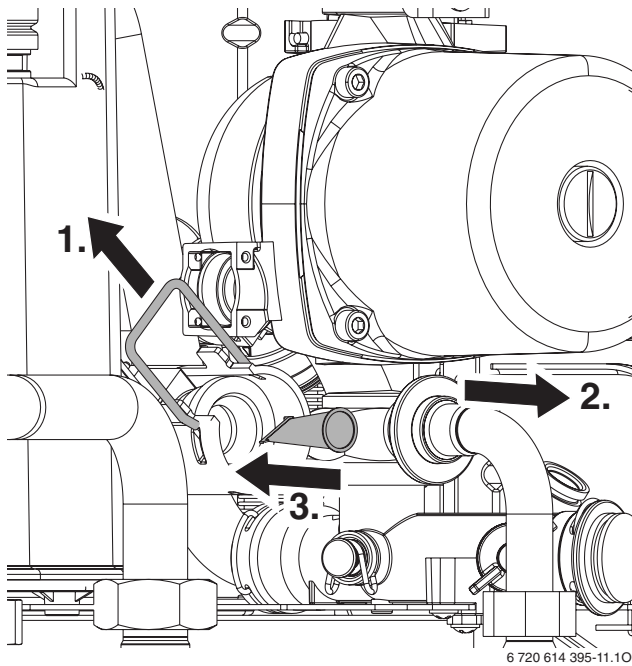

Fig. 63 Cold water filter
- ▶ Check filter in cold water pipe for debris (→ Fig. 63).